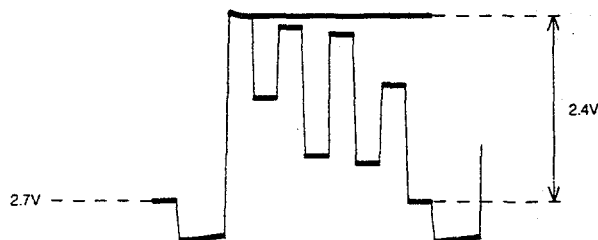

Fig.2
- c. Connect an oscilloscope (0,1V/div.- DC mode) via a 10:1 attenuator to pin 1 of connector M1. Set the brightness control so that the level of the black bar in the video signal is situated at 2.7V. Set the contrast control for a video signal amplitude of 2.4V (see Fig. 2).